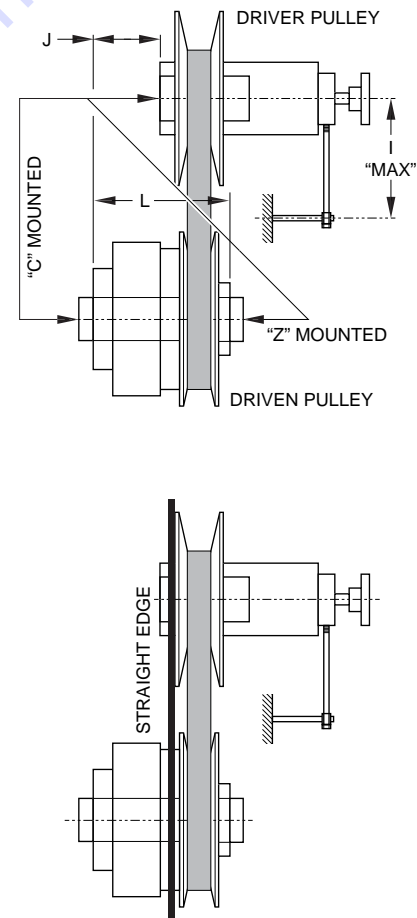

Figure 29. Pulley Orientation
A fixed center distance compound drive consists (Figure 29) of one cam stabilized automatic variable pulley, one manually controlled pulley and a standard "V" belt or a variable speed belt.
3. Align the drive by placing a straight edge along the outside rim of the automatic pulley and move either pulley axially on its shaft until the belt edge is parallel to the straight edge. See Figure 29.